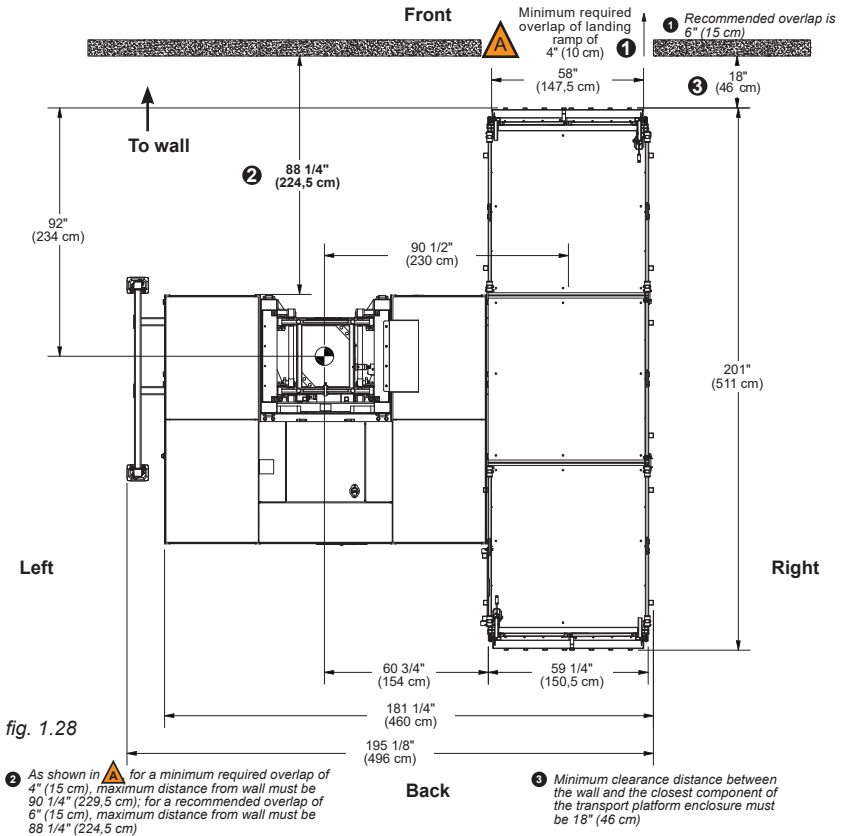

fig. 1.28
- 2- Lift and align the base of the motorized unit with the face of the work and lower it into position. To achieve a **recommended** 6" (15 cm) overlap of the landing ramp or the **minimum** overlap **required** of 4" (10 cm) and proper seating of the landing ramp (fig. 3.65 and fig. 3.67, p. 56), the minimum clearance distance between the closest component of the transport platform and the building must be 18" (46 cm). The distance between the face of the work and the front of the main frame must be at least 88 1/4" (224,5 cm) but not more than 90 1/4" (229,5 cm). For more information about distances, refer to fig. 1.28, p. 15.